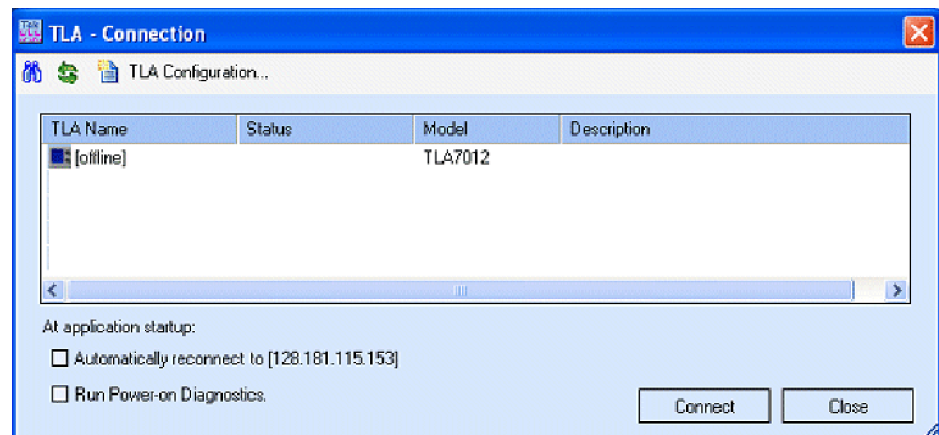

Figure 10: TLA Connection dialog box
8. Start the TLA application by double-clicking the TLA Application icon on the controller. The TLA Connection dialog box appears. (See Figure 10.)